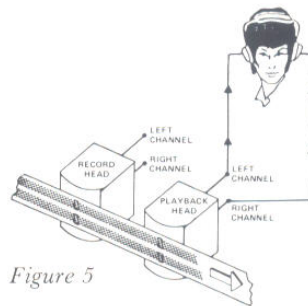

Figure 5
- Wind back to the start of the program, set the Sel. Sync. switch to Off, and play back the new recording in stereo, see figure 5.